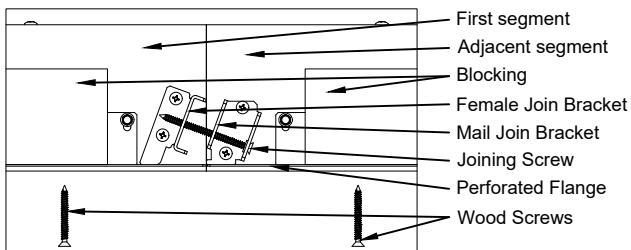
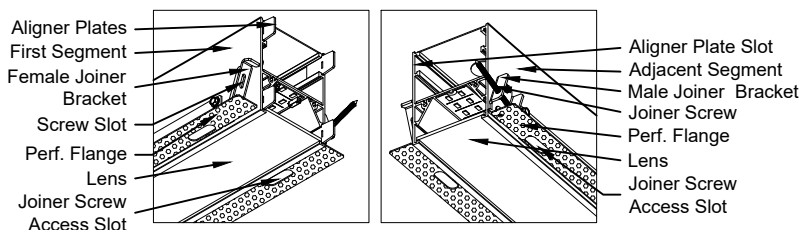

Fig. 6. Segment Joining.
Fig. 7. Joiner Details.
- Ceiling cutout for multiple segments fixture has to be slightly larger to allow at least 5/8" housing movement for aligner plates engagement (Fig. 7).
- Open end of the first segment (shown on Fig. 7 at left) has Aligner Plates and both Female and Male Joiner brackets. Locate adjoining fixture segment (shown on Fig. 6 at right) and place it into the ceiling cutout next to the first segment.